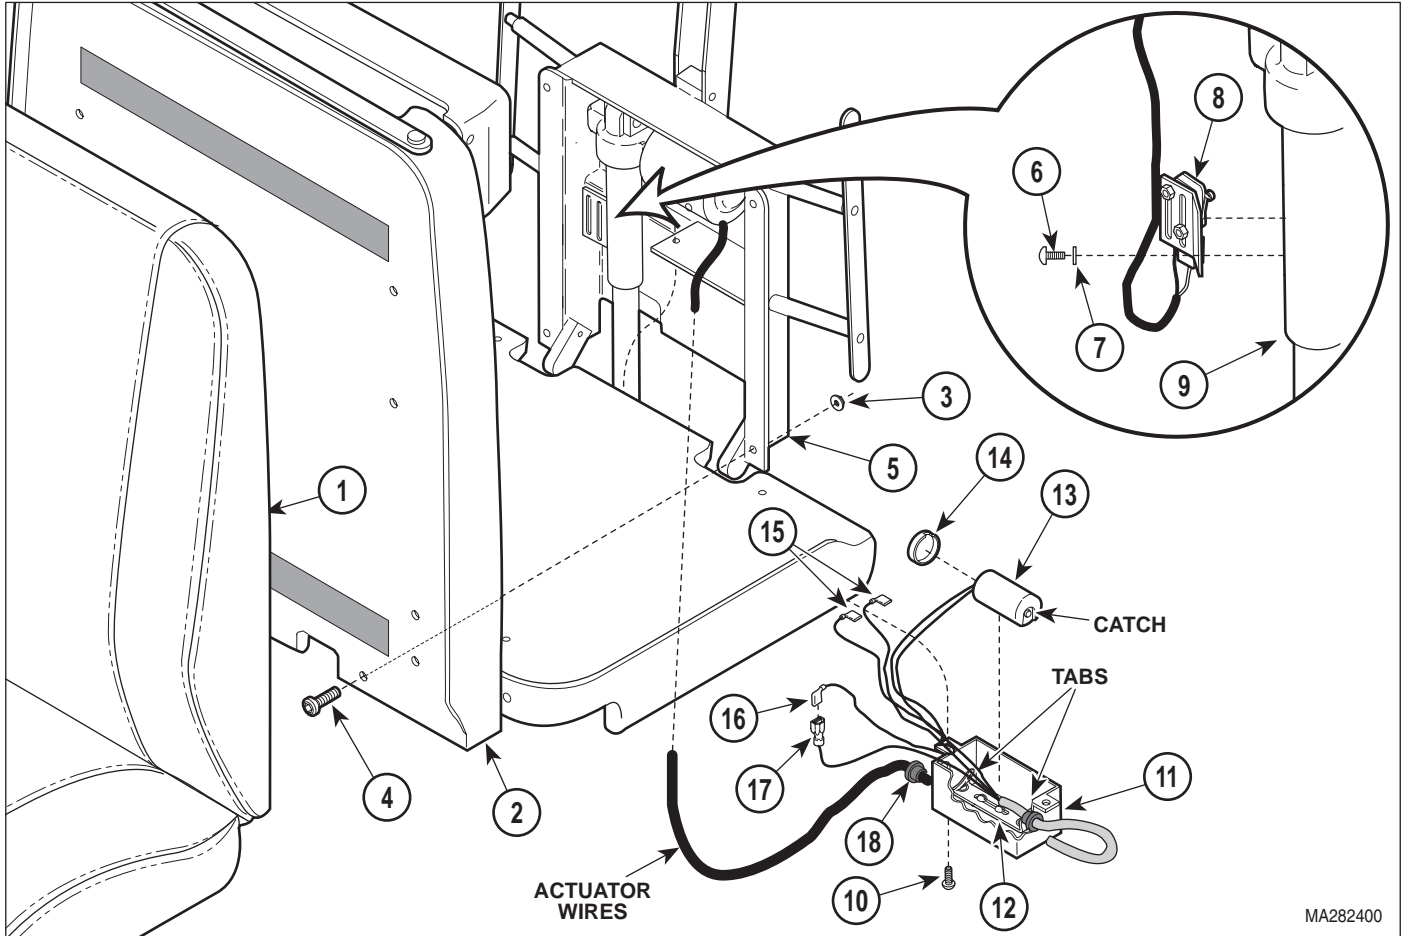
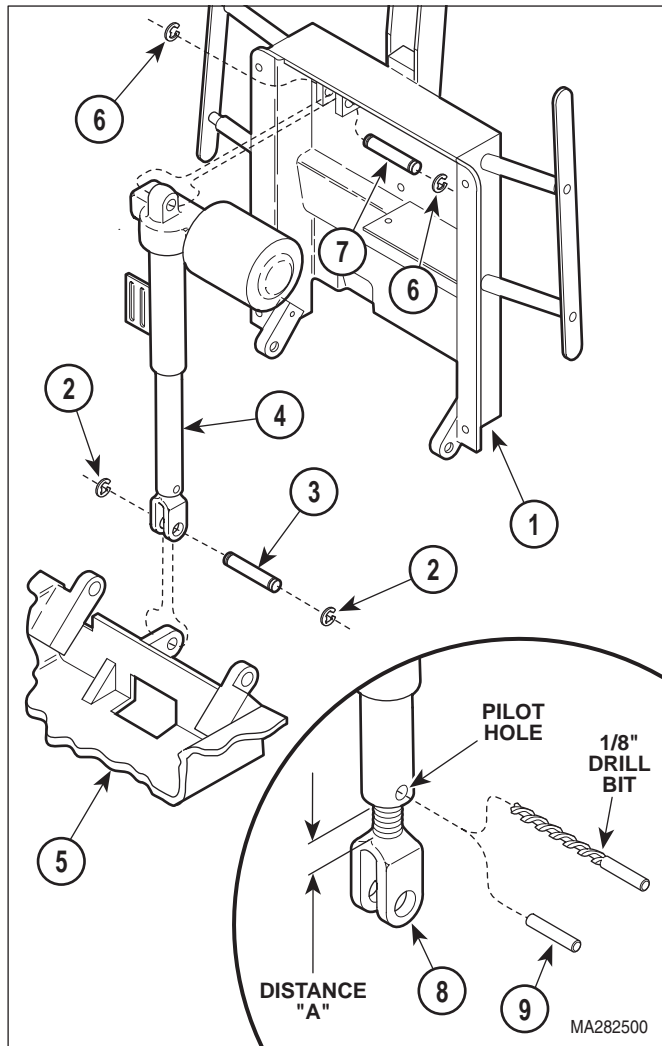

Figure 4-6. Wires Disconnection / Connection
Figure 4-7. Back Actuator Removal / Installation
- (1) Unplug table power cord from wall outlet.
- (2) Remove upholstered back (1, Figure 4-6) from back board (2).
- (3) Remove four nuts (3), screws (4), and back board (2) from back weldment (5).
- (4) Remove two screws (6), lockwashers (7), and back actuator limit switch assembly (8) from back actuator (9).
- (5) Remove two screws (10) and back capacitor cover (11) from back weldment (5).
- (6) Using screwdriver, pry tab of capacitor mounting bracket (12) outward; then remove back capacitor (13) from capacitor mounting bracket.
- (7) Remove cap (14) from back capacitor (13).
- (8) Discharge back capacitor (13).
- (9) Tag and disconnect two wires (15) from terminals of back capacitor (13).
- (10) Disconnect actuator wire (16) from wire (17).
- (11) Remove snap bushing (18) from back capacitor cover (11).
- (12) Pull back actuator wires thru snap bushing (18).
- (13) While supporting back weldment (1, Figure 4-7), remove two e-rings (2) and clevis pin (3) which is securing back actuator (4) to seat weldment (5). Lower back weldment down.
- (14) Remove two e-rings (6), clevis pin (7), and back actuator (4) from back weldment (1).
- (15) If back actuator (4) is being replaced, measure and record Distance A.
- (1) Screw or unscrew clevis (8, Figure 4-7) of new back actuator (4) until Distance A is set.
- (2) Install back actuator (4) on back weldment (1) and secure with clevis pin (7) and two e-rings (6).
- (3) Raise back weldment (1) into position; then temporarily connect back actuator (4) to seat weldment (5) with clevis pin (3).
| <p>(4) Pull back actuator wires thru snap bushing (18, Figure 4-6).</p> <p>(5) Install snap bushing (18) in back capacitor cover (11).</p> <p>(6) Connect actuator wire (16) to wire (17).</p> <p>(7) Connect two wires (15) to terminals of back capacitor (13).</p> <p>(8) Install cap (14) on back capacitor (13).</p> <p>(9) Position bottom of back capacitor (13) on capacitor mounting bracket (12) and then push the top of the capacitor inward. Using a screwdriver, force the tab of the capacitor mounting bracket down over the catch of cap (14). Make sure back capacitor is held firmly in place.</p> | <p>(10) Install back capacitor cover (11) on back weldment (5) and secure with two screws (10).</p> <p>(11) Install back actuator limit switch assembly (8) on back actuator (9) and secure with two lockwashers (7) and screws (6).</p> <p>(12) Plug table power cord into wall outlet.</p> <p>(13) Lower BACK DOWN function all the way down (until back actuator can be heard free wheeling).</p> <p>(14) Observe. Back weldment (1, Figure 4-7) should be parallel with seat weldment (5). If back weldment is parallel with seat weldment, go to step 19. If back weldment is not parallel with seat weldment, go to step 15.</p> |
- (15) While supporting back weldment (1), remove clevis pin (3) securing clevis (8) to seat weldment (5).
- (16) Screw clevis (8) inward or outward as determined necessary in step 14.
- (17) Connect clevis (8) to seat weldment (5) with clevis pin (3).
- (18) Repeat steps 13 thru 17 until back weldment (1) is parallel with seat weldment (5).
- (19) Install two e-rings (2) on clevis pin (3).
- (20) Using pilot hole as a guide, drill hole thru clevis (8) with 1/8 in. drill bit.
- (21) Secure clevis (8) in position by installing roll pin (9) in pilot hole.
- (22) Check adjustment of back actuator limit switch (Refer to para 4.7).
- (23) Coat threads of four screws (4, Figure 4-6) with removable threadlocking adhesive (Loctite 242).
- (24) Install back board (2) on back weldment (5) and secure with four screws (4) and nuts (3).
- (25) Install upholstered back (1) on back board (2).